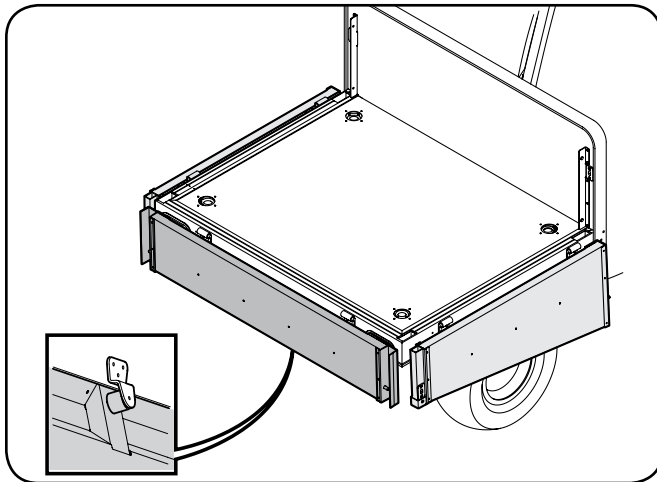

Figure 4-7
2. Secure the tailgate and sides in the down position with pin and socket. See "Figure 4-7".